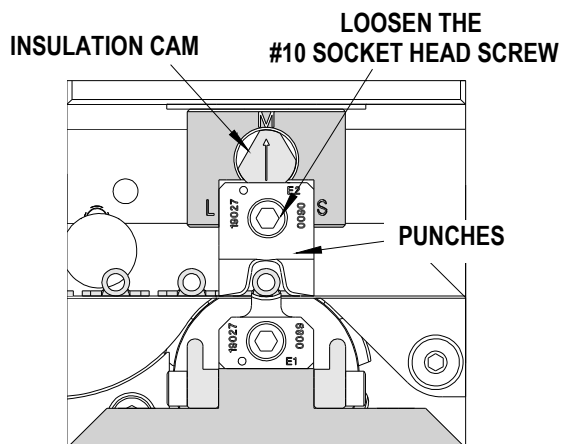

Figure 2-5
5. Rotate the insulation adjusting cam to achieve the desired insulation height. There are three cam positions (marked L, M, and S) for large, medium, and small diameter wires. The cam must be in one of the three positions; do not adjust it between positions. See Figure 2-5.